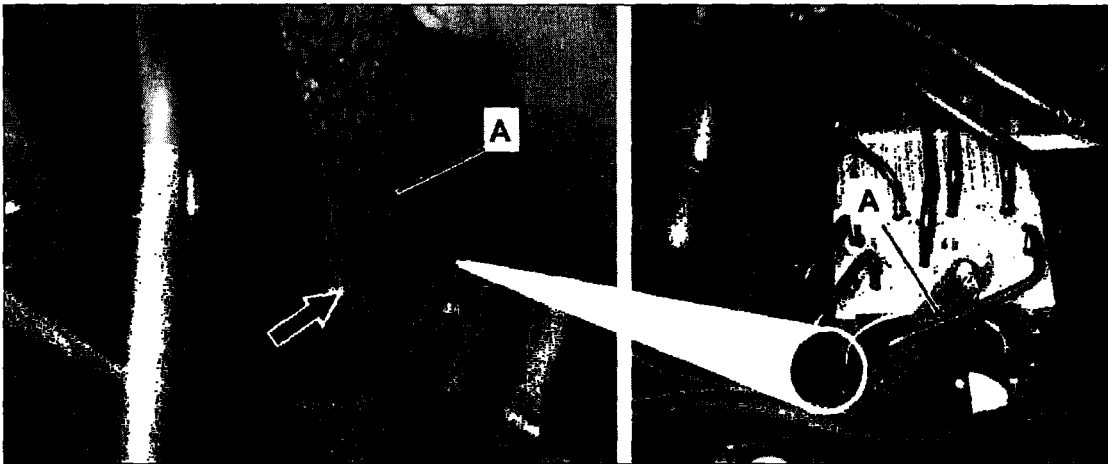

Figure 7
9. Replace suction hose (A, Figure 7):
- Open the suction hose mounting clip (arrow) and remove suction hose (A) from bracket.